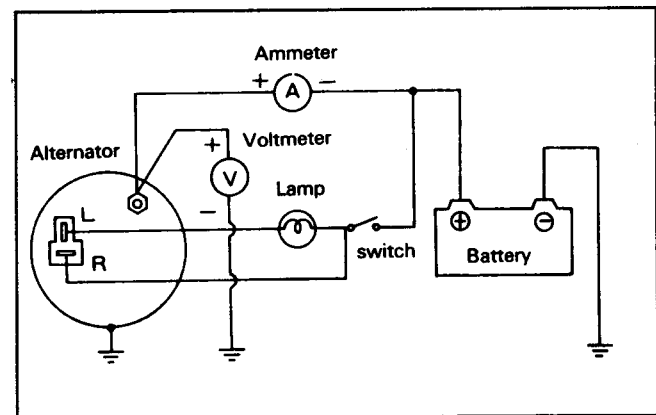

Figure 27
2. Install an ammeter between the positive (+) terminal of the battery and terminal "B" of the alternator (Fig. 27).